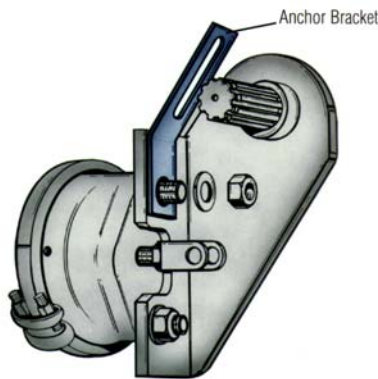

Figure 19 – Anchor Bracket
2. Install anchor bracket loosely as illustrated (See Figure 19) using the shorter hole location.